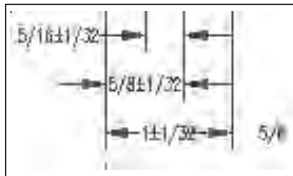

Figure 14-32: A set of continuous dimensions created with Quick Dimension
3. At the **Specify dimension line position, or [Continuous/Staggered/Baseline/Ordinate/Radius/Diameter/datumPoint/Edit/SeTtings]<Continuous>:** prompt, right-click and choose the type of dimension you want to create. Figure 14-32 shows a set of continuous dimensions. The datum point option sets a new base point for baseline and ordinate dimensions. You can press Enter to use the type of dimension you used just previously because that shows as the default. AutoCAD immediately creates the dimensions for you.